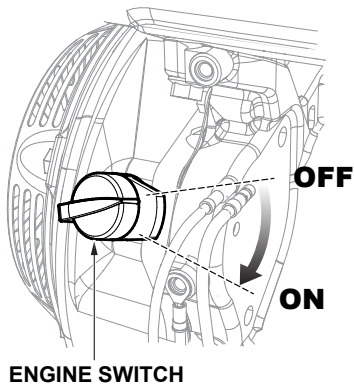

Figure 18. Engine ON/OFF Switch (ON Position)
- Place the engine ON/OFF switch (Figure 18) in the "ON" position.